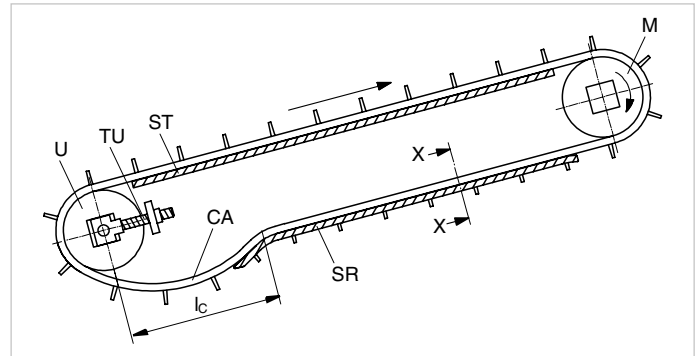

Figure 155
- SF** Belts with flights wider than 600 mm (24") have to be carried in the middle by a slider support strip (parallel or serpentine). (Figs. 155, 160, section X – X).
**SR** For flighted belts the slider support on the return way can be equipped with wear strips at the belt edges (see Fig. 155 below, section X – X).